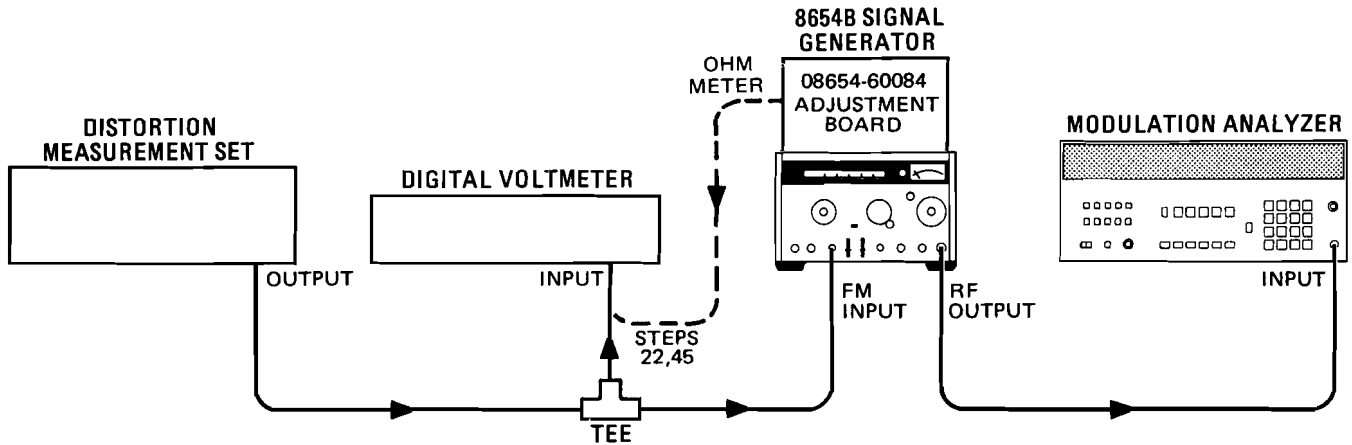

Figure A4-1. FM Deviation Adjustment Setup
3. Connect the equipment as shown in Figure A4-1 after setting the Signal Generator controls as follows: